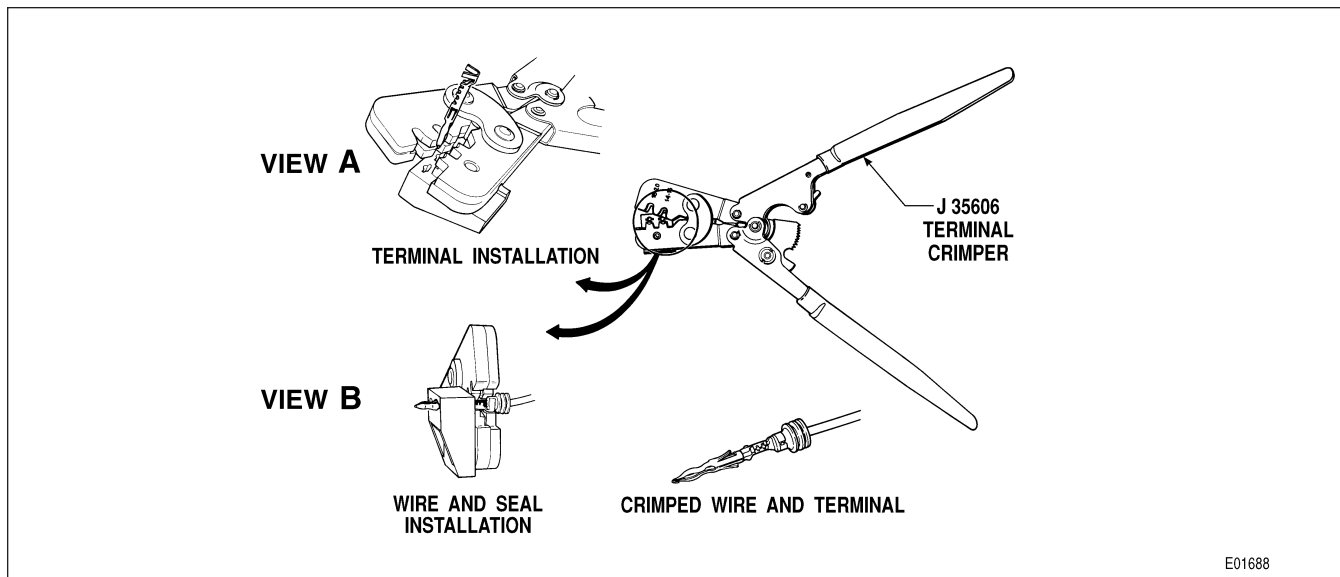

Figure E-7B. Terminal Crimping With Tool J 35606
3. Insert terminal into crimping tool J 35606 (refer to Figure E-7B, View A), opening marked 18–20.
6. Slide the wire seal to the edge of the insulation and insert the wire and seal into the terminal (refer to Figure E-7B, View B).